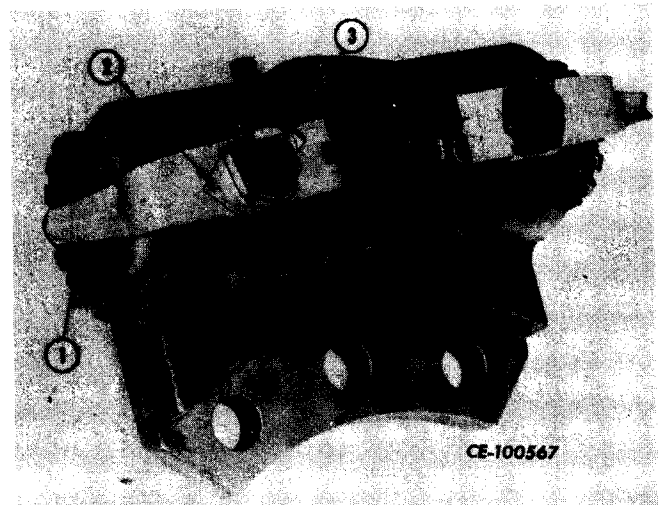
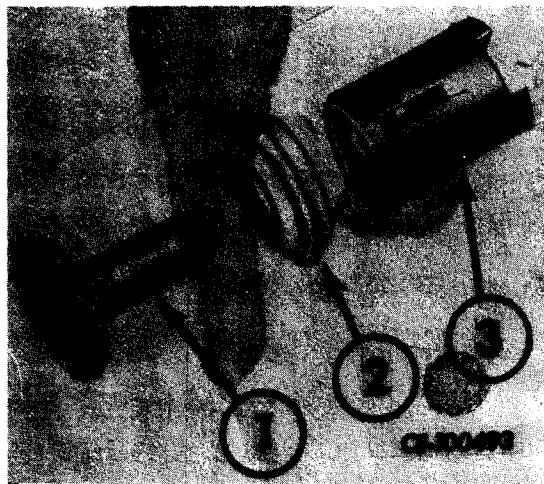

Figure 13-54
Figure 13-55
Bend back cap screw lock (2, Fig. 13-54) and remove guide cap screw (3) and detent lock (1).
Remove adjustment bolt (1, Fig. 13-55) from plunger (3). Carefully remove seal (2) from housing. Slide plunger from housing.
Apply film of grease to inside surface of seals (2, Fig. 13-55).
Coat plunger bores with grease. Coat entire plunger with grease, packing cavity behind seal. Insert plunger and seal into plunger housing with plunger key slot aligned with guide bolt (3, Fig. 13-54) hole. Be certain plunger goes all the way into plunger bore and seats on wedge assembly rollers. Seat plunger seal in housing.
Coat adjusting bolt (1, Fig. 13-55) with grease and turn into plunger by carefully working through outer seal flap. Do not pinch seal on both threads. Turn bolt in just short of seal. Do not bottom bolt on seal. Install detent lock (1, Fig. 13-54), cap screw lock (2) and guide cap screw (3). Refer to "SPECIAL TORQUES" for recommended guide cap screw torque.